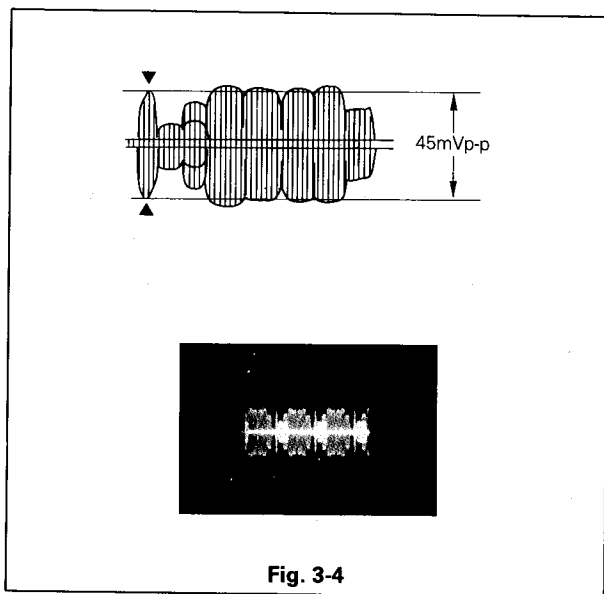

Fig. 3-4
- Adjust VR6A1 for a level of 45mVp-p, as shown in Fig. 3-4.